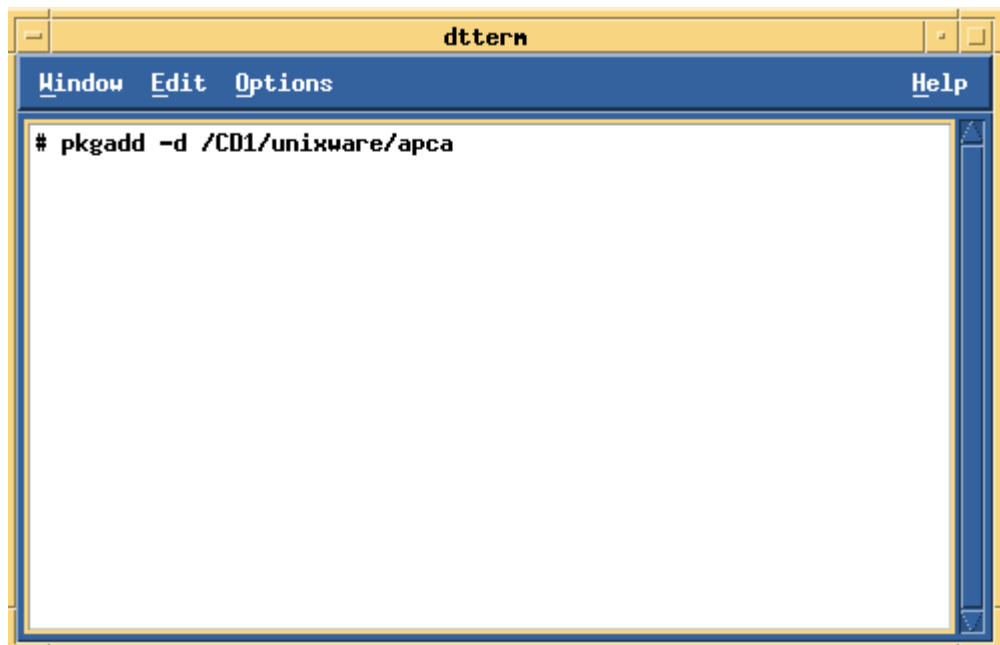

Figure 3-16. Adding Netfinity ESCON Adapter Software
3. Open a dtterm session and enter the **pkgadd** command as shown in Figure 3-16. 'CD1' is the name of the mount point specified in step 2.